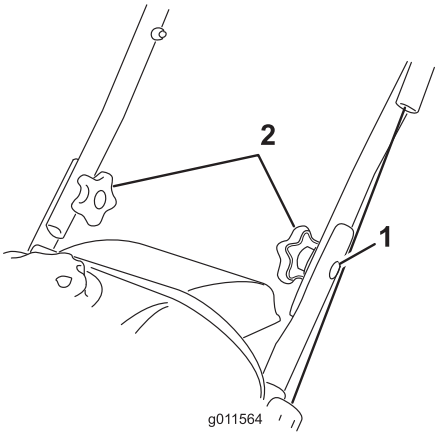

Figure 4
- Insert the oval-head bolts into the aligned holes, with the bolt heads on the outside of the handle (Figure 4).
1. Oval-head bolt (2)
- Install the curved washers and the handle knobs on the oval-head bolts on the inside of the handle (Figure 4) and **tighten the knobs securely**.